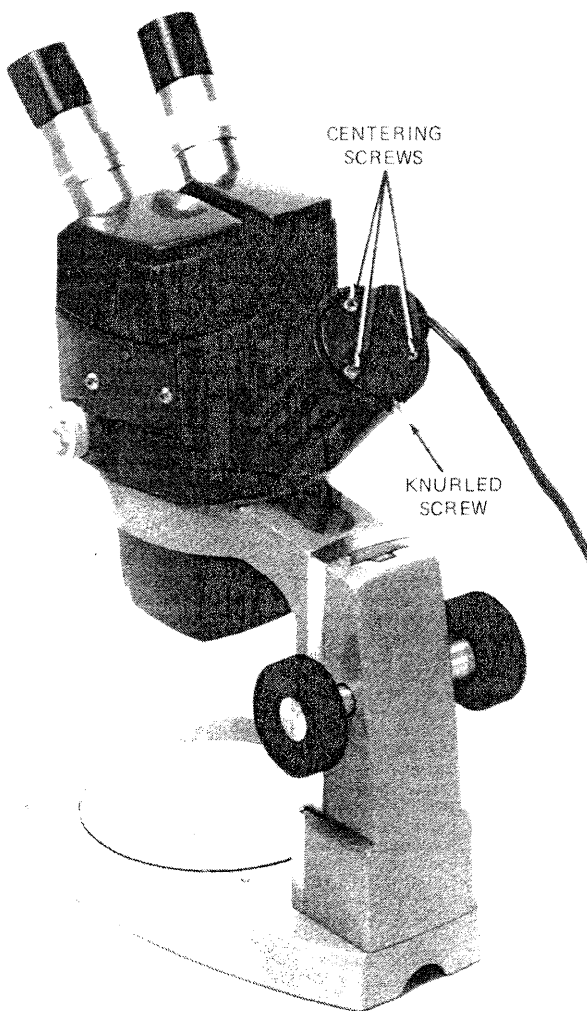

Figure 10.
- 4.) If the spot of light is very uneven, use the Allen wrench provided with the illuminator and center the bulb by means of the (3) screws shown in Figure 10.